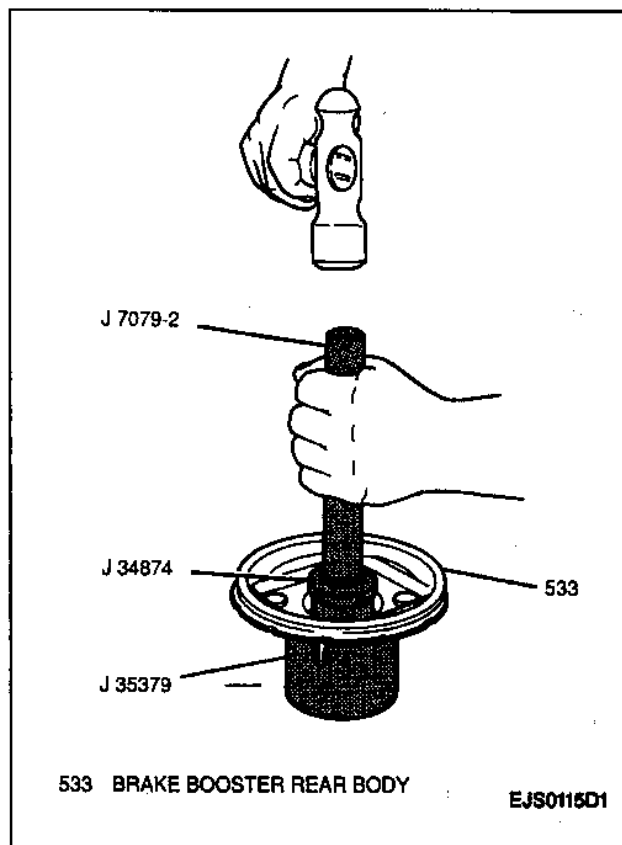

Figure 11—Removing Rear Body Oil Seal
10. Brake booster rear body oil seal from rear body using a J 7079-2, a J 35379 and a J 34874. Drive seal out with a hammer (Figure 11).